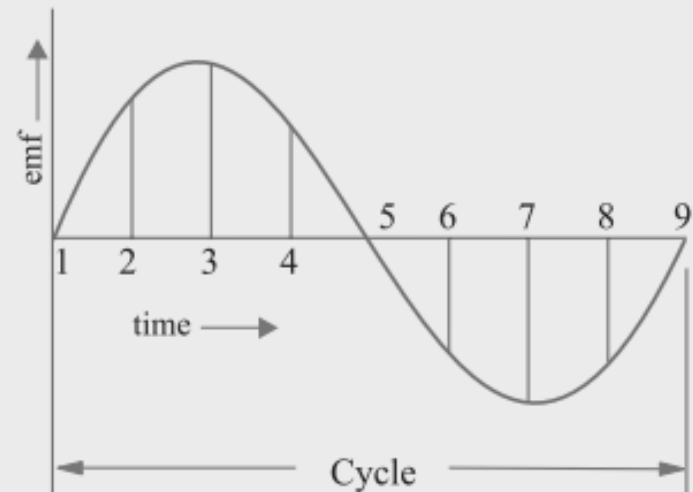

Fig. 2
- At position 5, no magnetic lines are cut and hence induced e.m.f. is zero as indicated by point 5 in Fig. (2).
- At position 6, the coil sides move under a pole of opposite polarity and hence the direction of generated e.m.f. is reversed. The maximum e.m.f. in this direction (i.e., reverse direction, Fig. 2) will be when the loop is at position 7 and zero when at position 1.